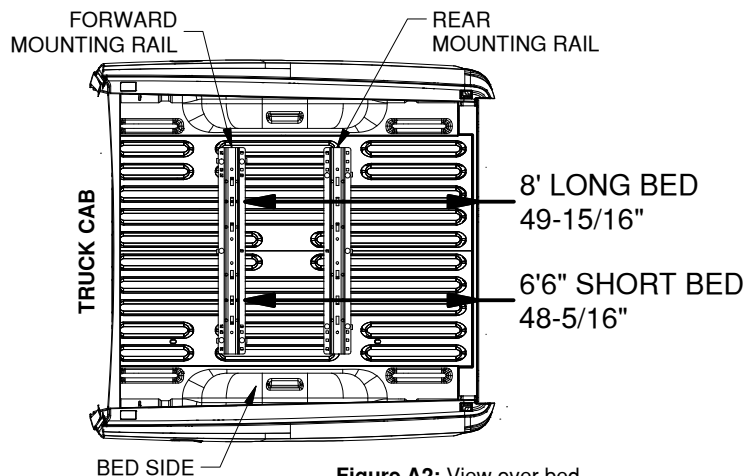

Figure A2: View over bed.
- Layout the forward mounting rail.** Place a mounting rail onto the bed of the truck. Hook a tape measure over the rear edge of the bed (not on any part of the tailgate), measure the location for the mounting rail, as shown in Figure A2. Next, center the mounting rail in the bed by measuring the distance on either side from the edge of the rail to the sides of the bed. The rail will be centered when both measurements on either side of the rail are the same.